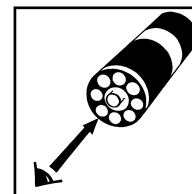

Figure 6
- a. **Low Range Comparator (fig. 6):** Place the ampoule, flat end first, into the comparator. Hold the comparator up toward a source of light and view from the bottom. Rotate the comparator until the best color match is found.